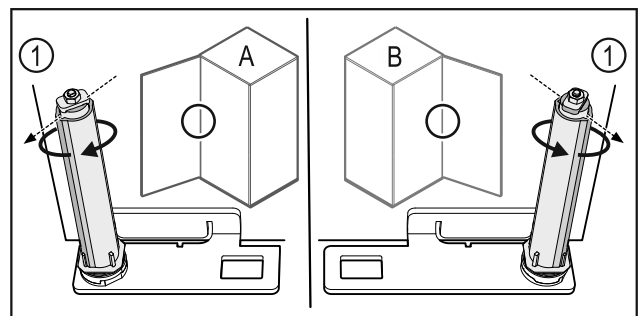

Fig. 61 Left-hinged (A) / Right-hinged (B)
- ▶ Turn the closing system against the resistance until the bar of the closing system Fig. 61 (1) points outwards.